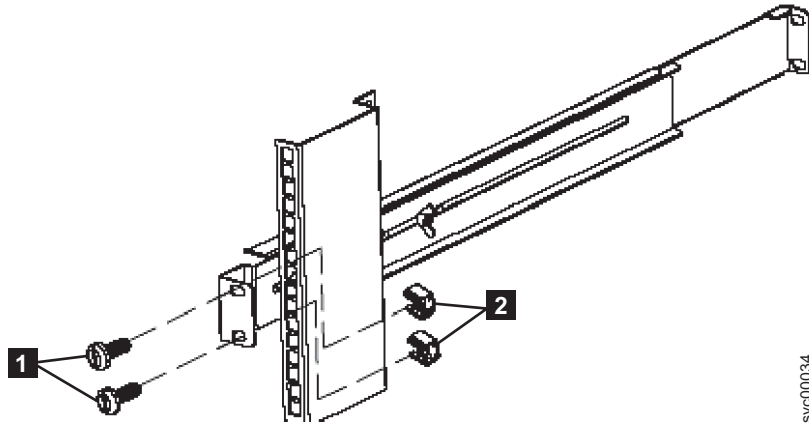

Figure 325. Removing the rear rail on the 2145 UPS-1U
5. Remove the two M6 × 10 screws from the rear side of the rail (**1** in Figure 325 on page 316) and the two clip nuts (**2**).